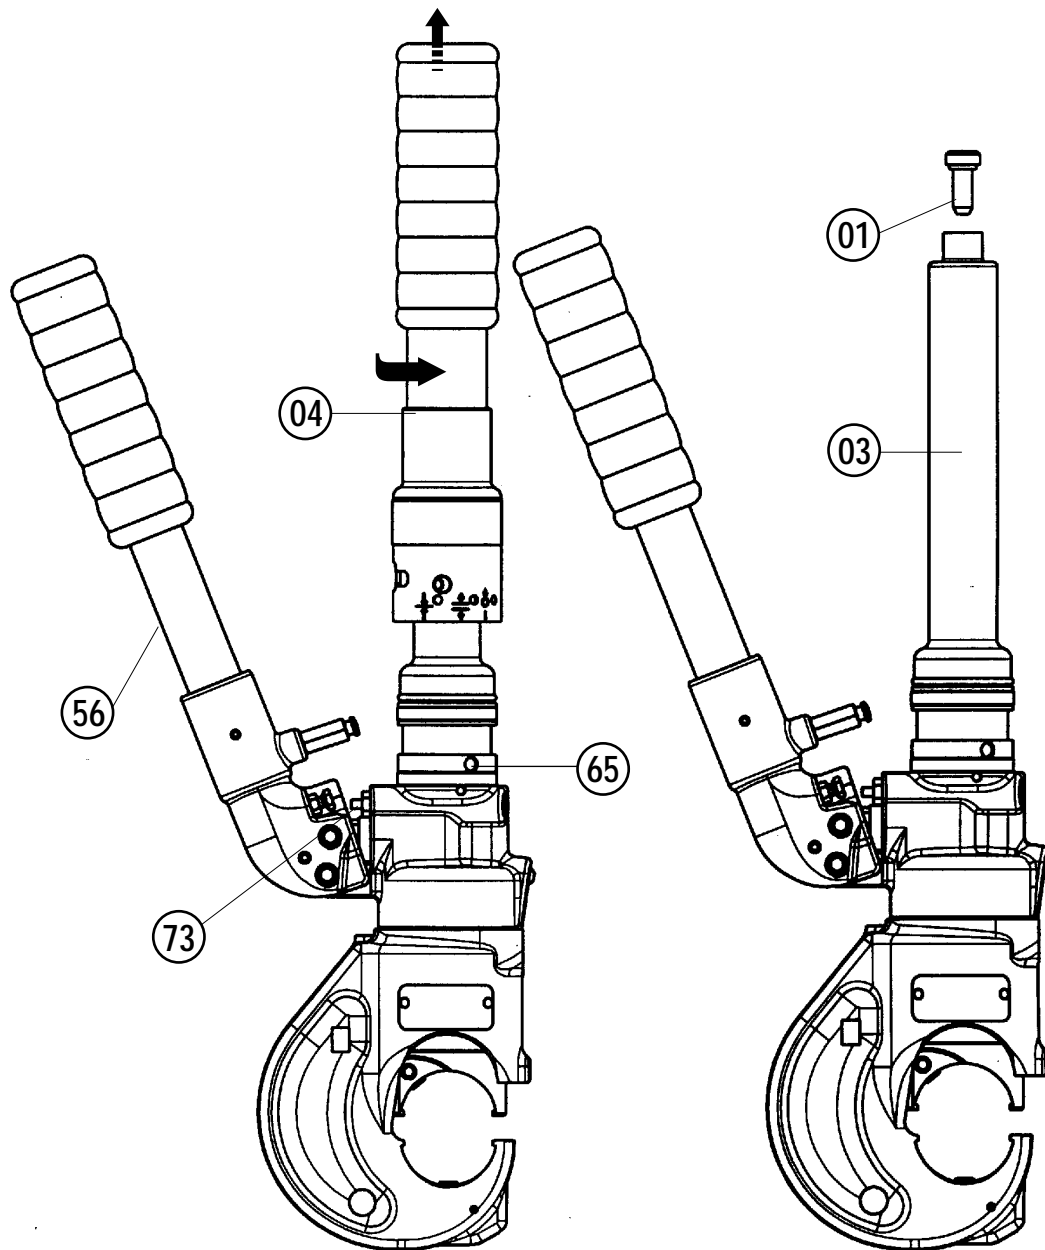

FIG. 4 TOOL POSITION FOR MAINTENANCE OPERATIONS
4. MAINTENANCE (Ref. to Fig. 4 and 5)
- a – Hold tool upright in a vice with handles open (Fig. 4).
- b – By an hexagonal 2,5 mm key, remove screw (65) and main handle (04) to expose oil reservoir (03).
- c – Remove reservoir cap (01).
- d – Operate three or four times the moveable handle (56), to advance the ram (28).
- e – Depress pressure release pin (73) until ram is fully retracted.
- h – Remove all air from reservoir and fit cap (01).
- i – Assemble main handle (04), and holding screw (65).